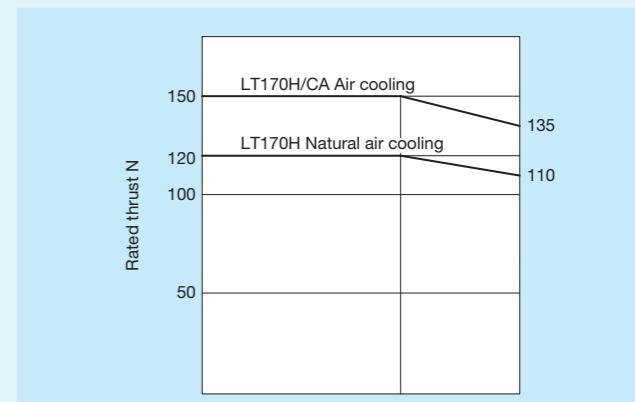

Fig. 16 Rated thrust characteristics of LT170H
(2) In the case where the unit is fixed on a steel-made cradle under ambient temperature of 0 to 25°C. For more information, please see Fig. 16 on page II-306.
(3) This is under air flow rate of 30NL/min.
(4) For the speed exceeding 1,500mm/s, please contact IKO.
(5) This maximum speed may not be reached depending on the maximum output frequency of the controller used, and the driver type or settings.
(6) When the temperature of the product is constant.